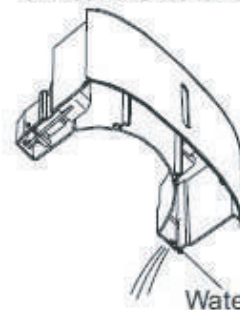

Fig.7
- Throw away the water from the water outlet (See Fig.7) and replace the bucket. The bucket must be in place and securely seated for the dehumidifier to operate.